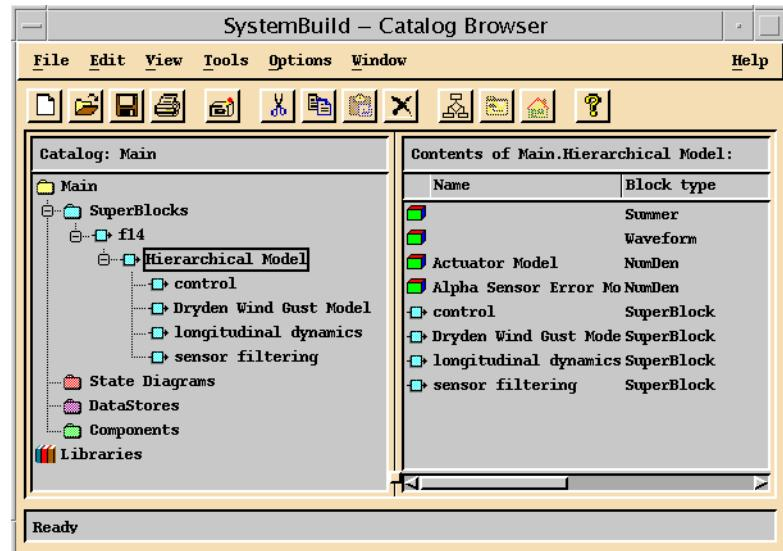

Figure 4-14. Expanded Hierarchy for f14 Model
2. Continue expanding each level of the model (see Figure 4-14).